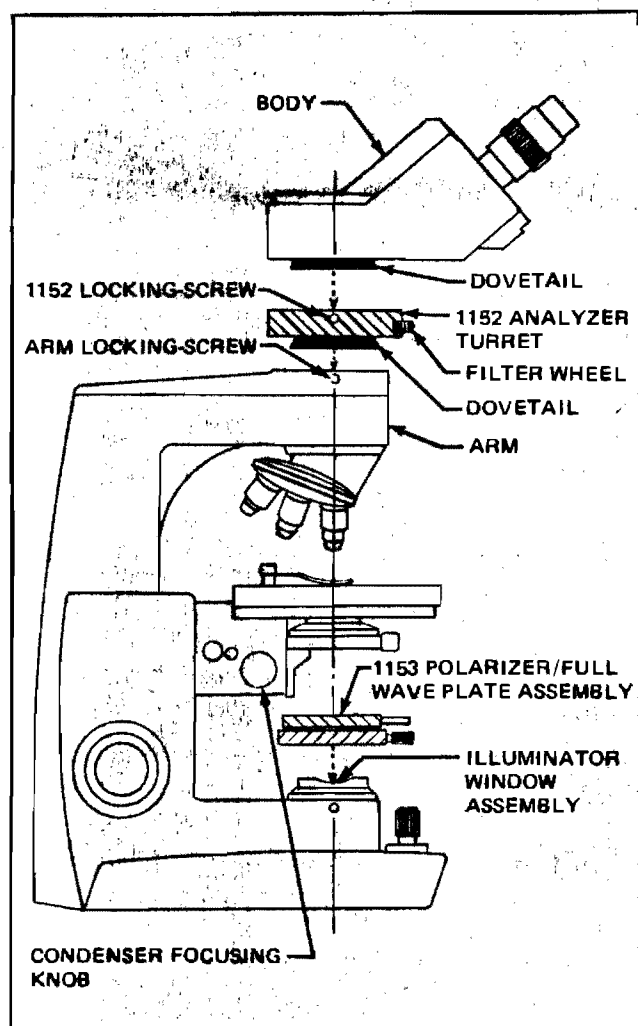

Figure 1
The 1152 Analyzer Turret is installed in the light path between the objective and the eyepieces as shown in Figure 1. Installation requires removal of the Body. Proceed as follows:
1. Steady the Body with one hand and loosen the knurled Arm Locking-Screw (Figure 1) with the other so the Body can be removed.
2. Position the 1152 Analyzer Turret so that the 1152 Filter Wheel faces front and the knurled 1152 Locking-Screw is directly above the Arm Locking-Screw as shown in Figure 1.
1. Raise the Condenser by rotating the Condenser Focusing Knob (Figure 1) until it hits the stop
1. The 1153 Polarizer/Full Wave Plate and Adapter is mounted on the Illuminator Window Assembly Mounting Flange as shown in Figure 1.